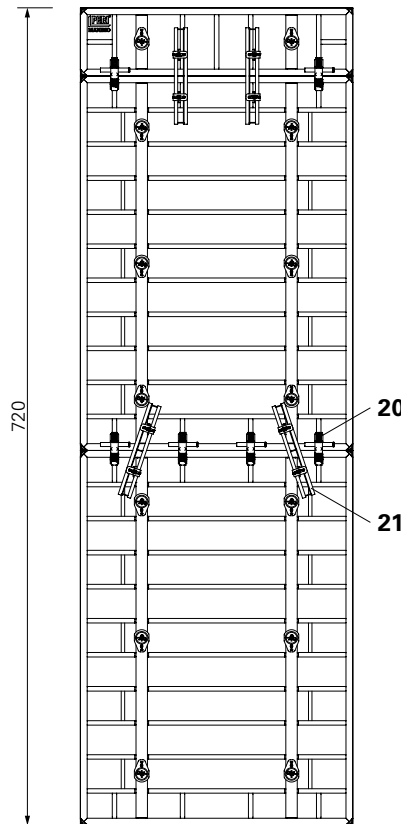
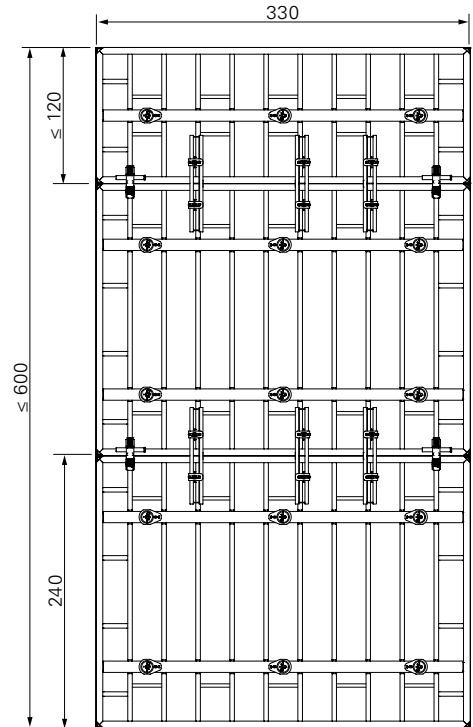

Fig. C12.03a
Fig. C12.03b
- $H = 7.20$  m (Fig. C12.03a)
- on panel joint 330 – 330, install Alignment Coupler BFD (20) and Compensation Waler MAR 85 (21),
- on panel joint 330 – 60, install Alignment Coupler BFD (20).
- For extension units  $H \leq 6.00$  m, Alignment Couplers BFD (20) and Compensation Walers MAR 85 (21) are to be used on the panel joints. (Fig. C12.03b)